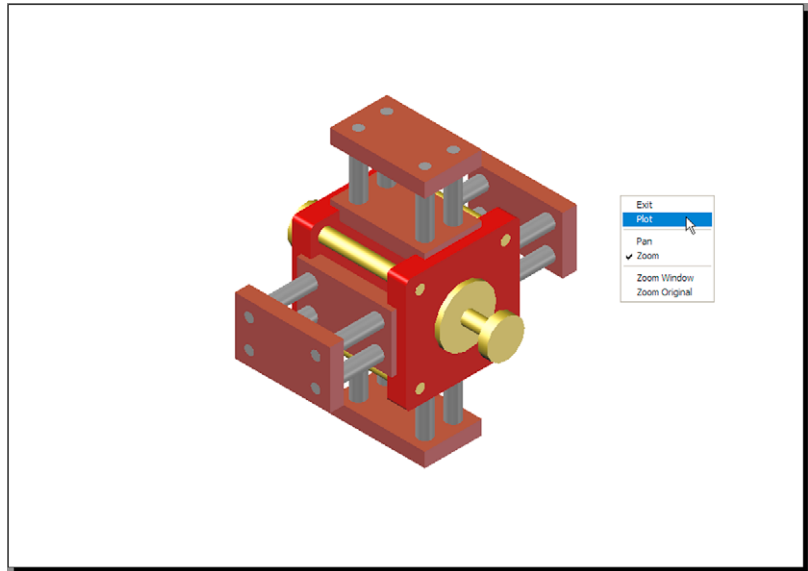

Fig. 15.36 First example – Print Preview – printing a single copy
### First example – printing (Fig. 15.36)
3. *Click* the **Preview** button of the dialog and if the preview is OK (Fig. 15.36), *right-click* and in the right-click menu which appears, *click* **Plot**. The drawing plots producing the necessary ‘hardcopy’.